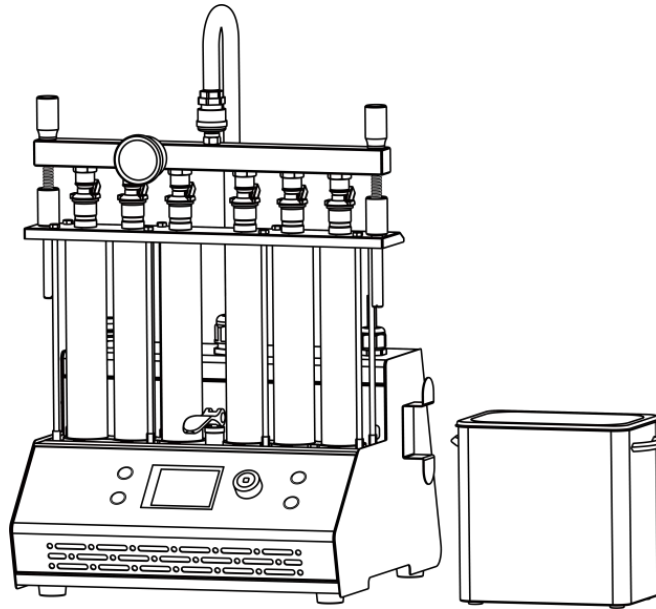

Figure 4.2
- Pouring out all cleaning fluid from the ultrasonic cleaning pool completely shown in Figure 4.2, and wipe the ultrasonic cleaning unit with a soft dry cloth.